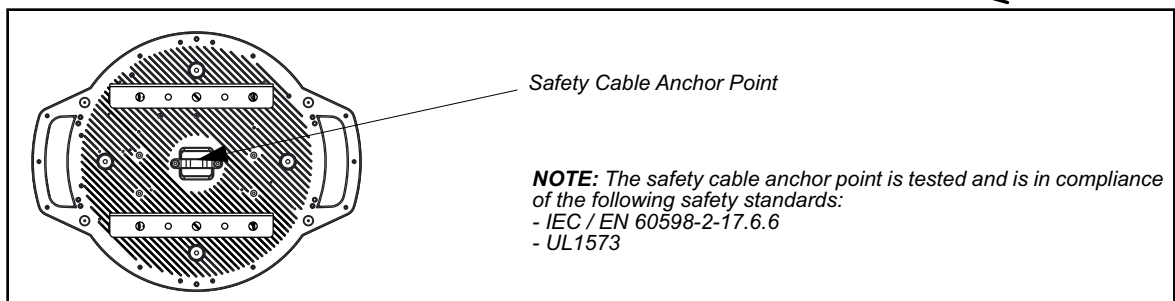

FIGURE 11: SAFETY CABLE INSTALLATION / LUMINAIRE HANGING
- Step 3. Attach safety cable (as required) as follows (refer to Figure 11):